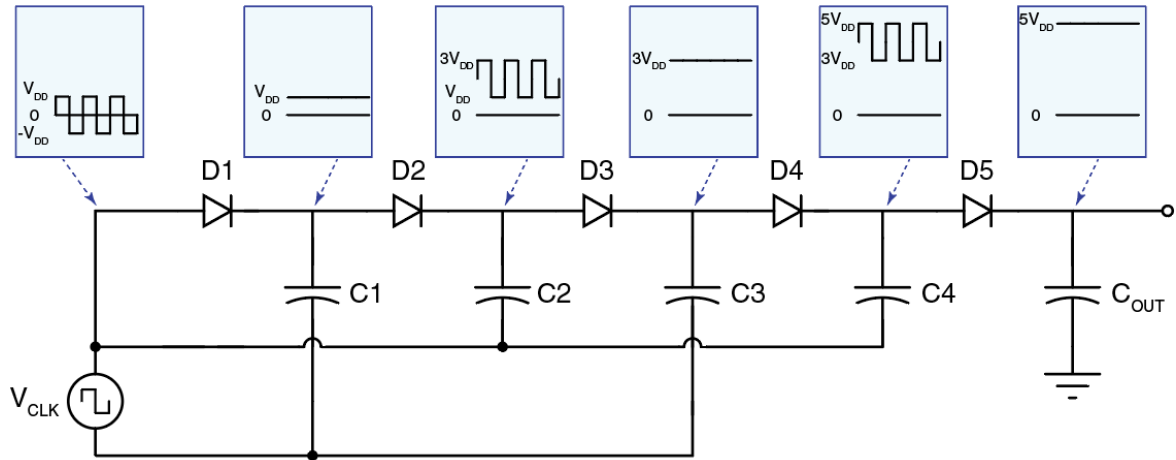

Fig. 2.5. Dickson charge pump
5. Charge Pumps for Voltage Multiplication: Charge pump circuits are commonly used to generate high voltages beyond the supply voltage (V_{DD}). The Dickson charge pump is shown in Figure 2.5. It operates by transferring charge from left to right along the diode chain, from capacitor to capacitor. When V_{clk} is high (V_{dd}), diode D_1 conducts until the voltage across capacitor C_1 is charged to V_{dd} . When V_{clk} is low (negative V_{dd}), diode D_2 conducts and transfers charge from C_1 over to C_2 . Eventually, the voltage across capacitor C_2 becomes $2V_{dd}$. When V_{clk} goes high (V_{dd}) again, the voltage at node 2 now becomes $3V_{dd}$. This process repeats itself at each stage, with the voltages at each node as shown in Fig. 2.5.